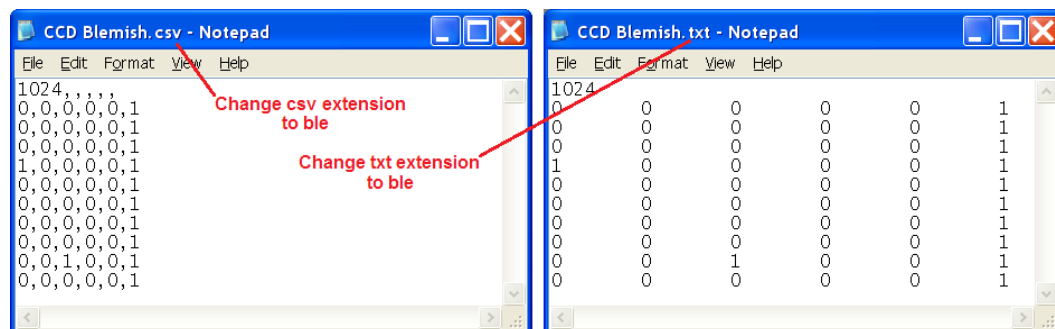

Figure 132. Blemish Files: CSV format and Tab Delimited format
4. For each pixel in a row, enter either a 0 (no blemish) or a 1 (blemish), a comma or tab separator, and press [Enter] after you have completed the entries for that row. Figure 132 shows both comma and tab separated entries.
Note: In the files shown in Figure 132, the blemishes did not go beyond the sixth column on the sensor. It was not necessary to enter values for the remaining blemish free columns.
5. If there was only one column blemish and it started in row 1, column 6 of the sensor, you would have five 0s and a 1 in the sixth position as shown in Figure 132. You would repeat this entry in succeeding rows until you reached the limit of the blemish. If there were also individual pixel defects you want corrected, you would replace the appropriate 0s with 1s. Before you can use the blemish file, it must contain the initial row indicating the sensor height and a row of values for each row on the sensor. The blemish file for a 1024 high sensor would contain 1025 rows; for a 200 high sensor, the file would contain 201 rows.